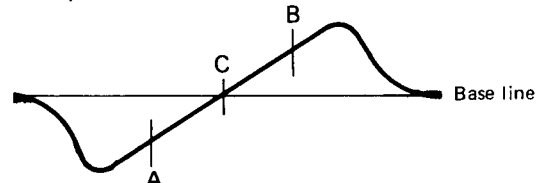

Fig. 13
5. Use the T202 core to from the S-curve shown in Fig. 13. Adjust the symmetry of A and B about point C for linearity.